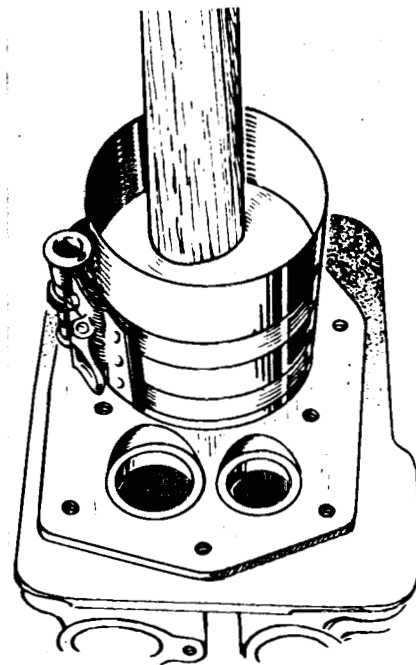

FIGURE 27. INSTALLING PISTON AND CONNECTING ROD
2. Lubricate the number one piston assembly and inside of the cylinder. Compress the rings with a ring compressor (Figure 27).
4. Tap the piston down into the bore with the handle end of a hammer until the connecting rod is seated on the journal (Figure 27). Install the bearing cap on the rod. Install and tighten the nuts evenly, in steps, to the specified torques.